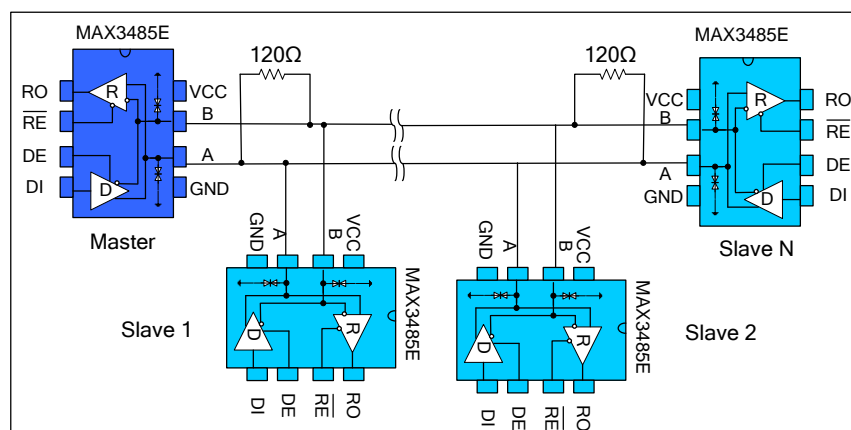

Figure 9 Bus type RS485 half duplex communication network
4.1 Bus Networking: MAX3485E RS485 transceiver is designed for bidirectional data communication on multi-point bus transmission line. Figure 9 shows a typical network application circuit. These devices can also be used as linear repeaters with cables longer than 4000 feet. In order to reduce reflection, terminal matching should be carried out at both ends of the transmission line with its characteristic impedance, and the length of branch lines outside the main line should be as short as possible.